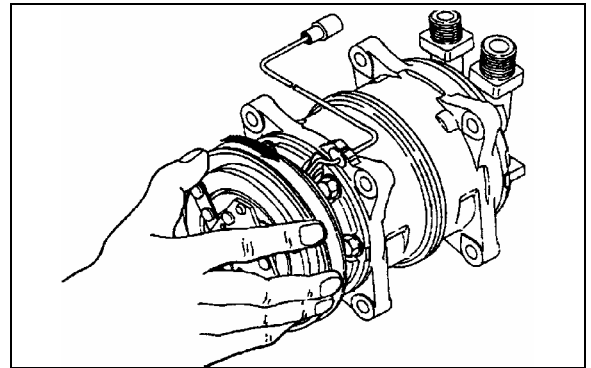

FIGURE 37: ROTATING MAGNETIC CLUTCH
- * Slowly rotate the compressor's magnetic clutch several times by hand to distribute the oil which has settled in the cylinders (Refer to figure 37).